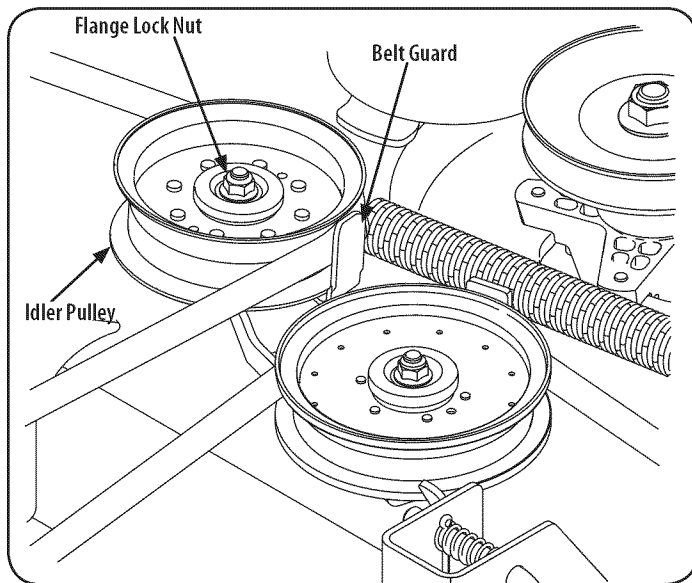

Figure 37
- Loosen, but do not remove, the movable idler pulley and belt guard by only loosening the flange lock nut securing the idler pulley to the idler arm. See Figure 37.
- Place the belt around the idler pulleys removed in step 3. Once in place, retighten the flange lock nut on the idler pulley to secure the assembly. See Figure 37.